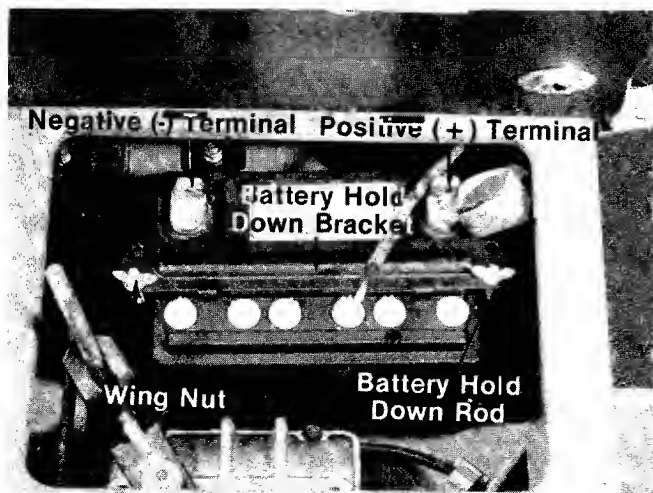

FIGURE 10.
5. Place the battery with the terminals to the front in the battery case (positive terminal to the right). See figure 10.
6. Hook the battery hold down rods in rider frame. While holding rods with one hand, place battery hold down bracket over battery and start plastic wing nut. See figure 10.
7. Repeat the above on the other side. Tighten both wing nuts securely. See figure 10.